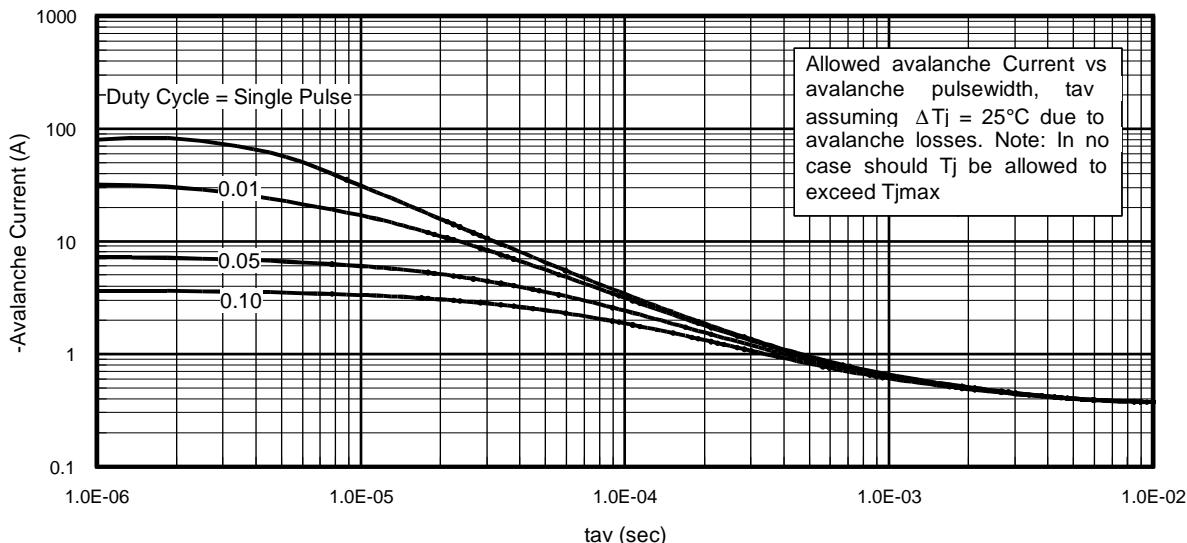

Fig 14. Typical Avalanche Current Vs. Pulsewidth
| I_{AR} | Avalanche Current ⑦ | See Fig. 14, 15, 17a, 17b | A | mJ |
Notes on Repetitive Avalanche Curves , Figures 14, 15:
7. ΔT = Allowable rise in junction temperature, not to exceed T_{jmax} (assumed as $25^\circ C$ in Figure 14, 15).